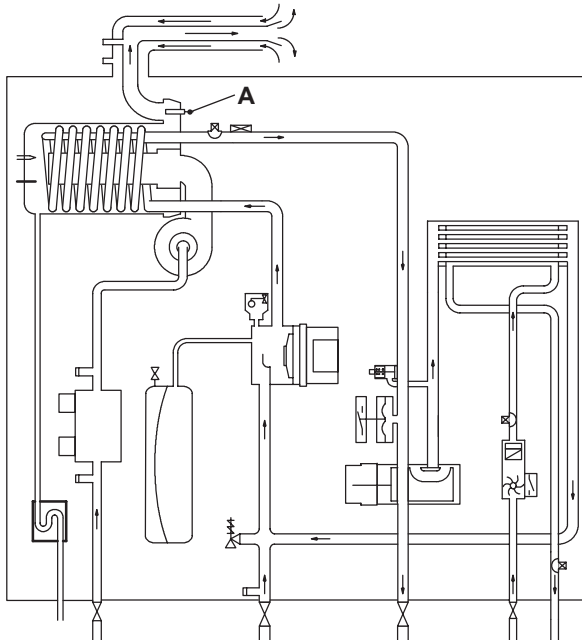
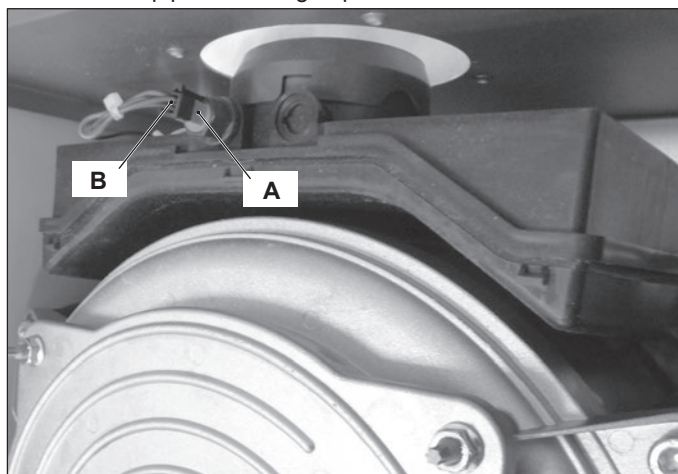

Figure 20.1
Figure 20.2
The Flue temperature probe NTC and Safety thermal fuse "A" in Figure 20.1 and Figure 20.2 senses the temperature of the combustion products that flow through the condensing heat exchanger.
A Flue temperature probe NTC and Safety thermal fuse "A" in Figure 20.1 and Figure 20.2 is also connected in series with the Flue temperature probe NTC and acts as a safety device in extreme case of incorrect operation of the Flue temperature control system.
- 2 Disconnect the connector "B" from the Flue temperature probe NTC and Safety thermal fuse by pressing the plastic hook placed on the side of the connector (Figure 20.2).
- 3 Unscrew and remove the Flue temperature probe NTC and Safety thermal fuse "A" (Figure 20.2) from the condensing heat exchanger.